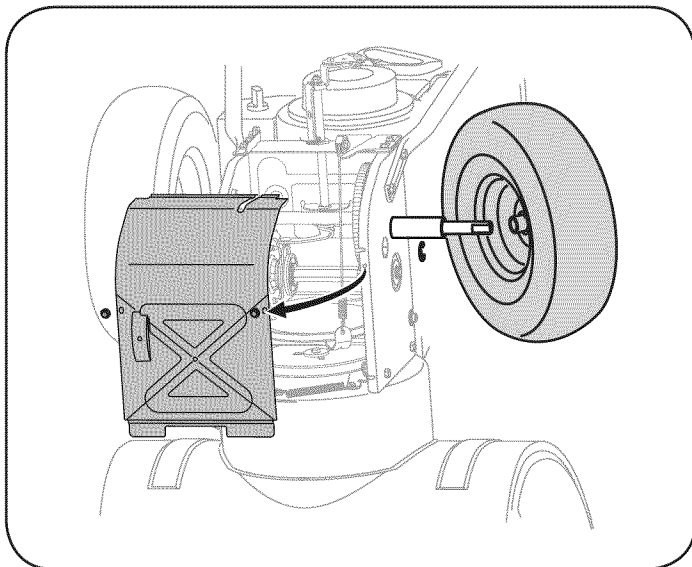

Figure 32
- Remove the right-hand wheel by removing the screw and bell washer which secure it to the axle. See Figure 32.